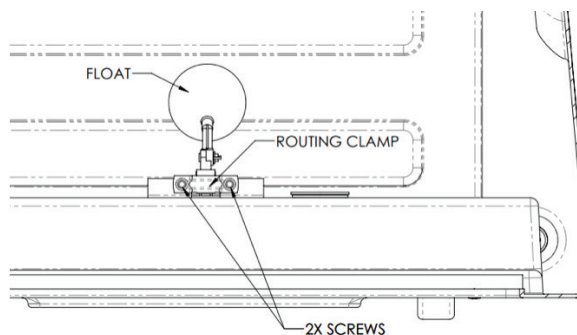

Figure 5: Portacool Unit Interior View with Float and Bracket Assembly.
- b. Float Valve and Bracket/Routing Clamp Configuration (Figure 5):
- Remove the Routing Clamp by removing the 2X Screws with a 5/16" socket (Figure 5).
- Reattach the Routing Clamp using the 2X Screws (Figure 5).